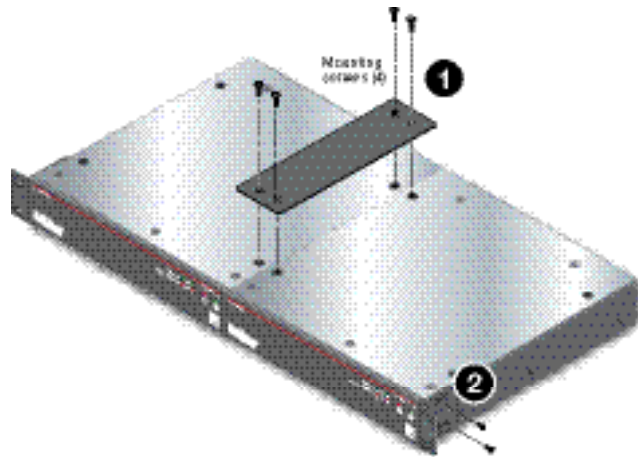

Figure 2. Installing XPA U 3502 Bridge Plate
3. Use the bridge plate connector and the four provided #4 machine screws to connect the two amplifiers together (see figure 2, ❶, on the next page).
4. Attach the two short rack ears to the amplifiers with four provided #6 machine screws (see ❷).